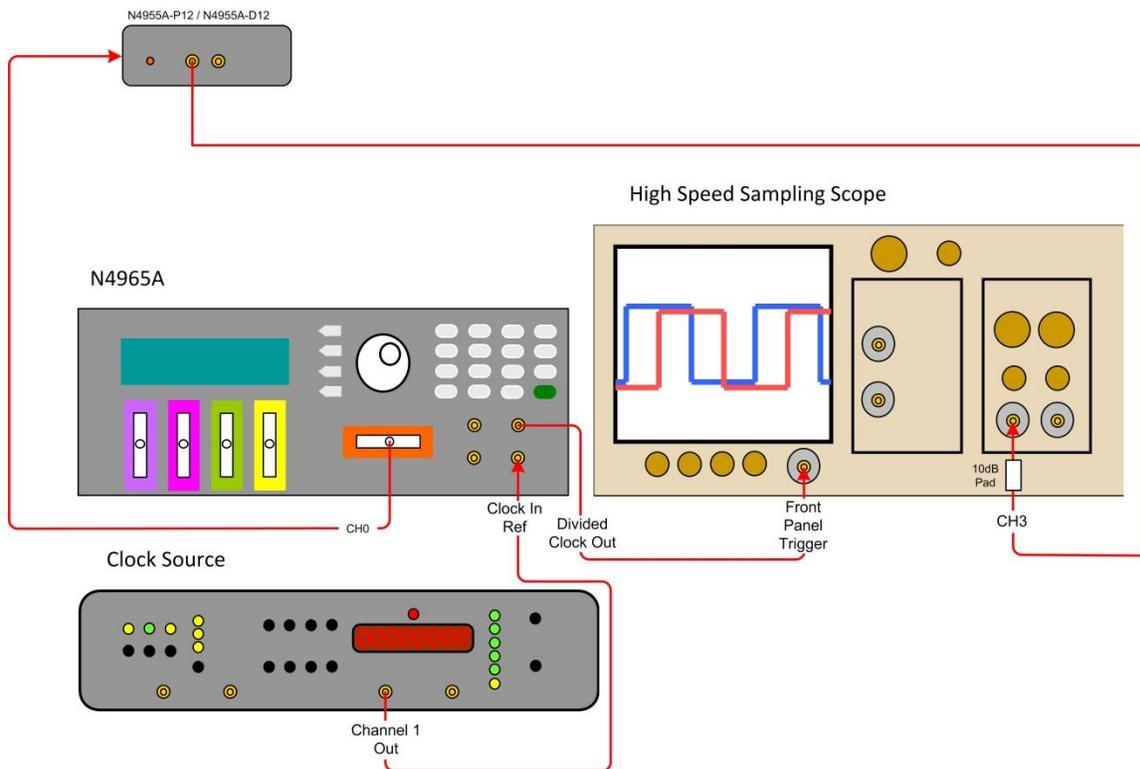

Figure 3. PRBS generator setup
2. Connect the N4965A to a clock source and the N4955A-P12/N4955A-D12 (s) to a high speed sampling scope as shown in Figure 3. Tighten coax connectors to 8 lb-in (90 N-cm) and use 50 Ω terminations on all unused ports.